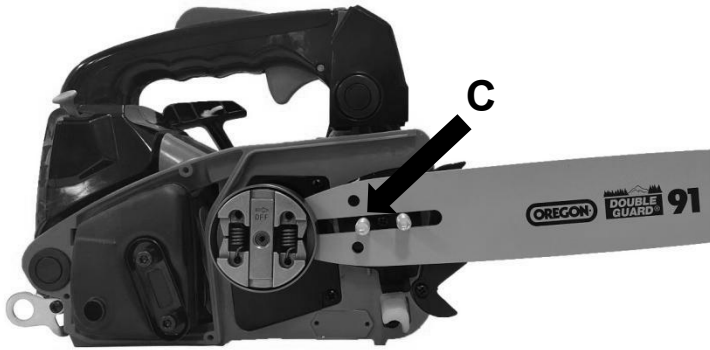

Fig. 6
4. Install the guide bar so that the bar slot aligns with both bolts (C) (fig. 6).